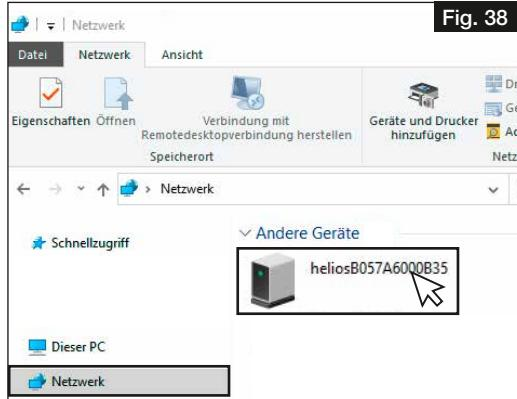

Fig. 38
2. Open desktop and click on Network, cf. Fig. 38.
① Network discovery must be activated!
3. Double-click on the corresponding unit, cf. Fig. 38.